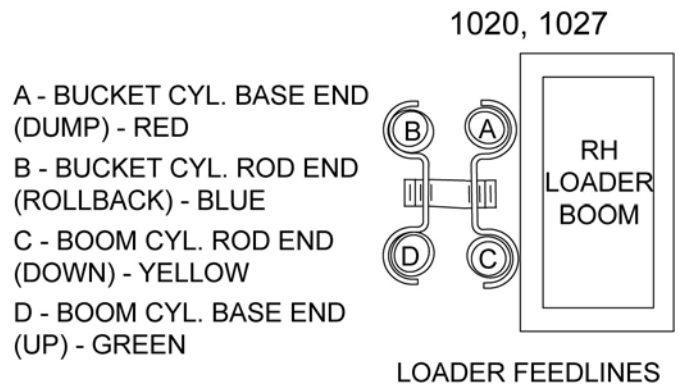

Figure 28. Loader Feedline Connection
2. Attach loader feedline hoses to the steel feedlines on the loader boom. See Figure 28.